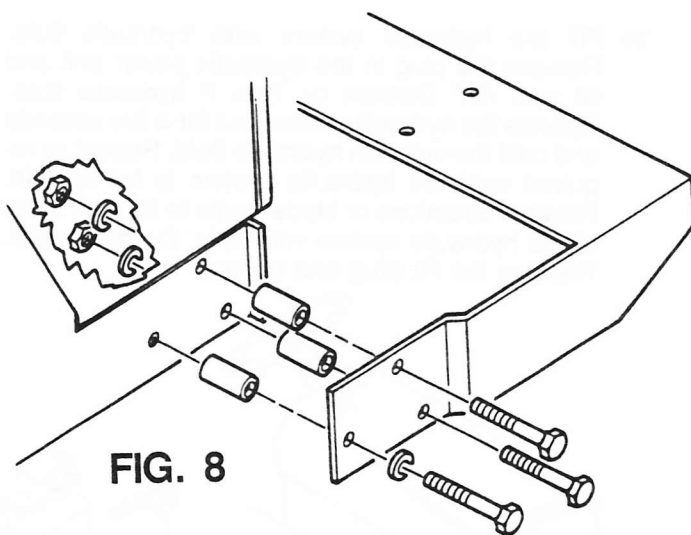

FIG. 8
2. When mounting on the 12-G through 20-G, use (3) spacers, (3) $\frac{1}{2}$ -13 x $2\frac{1}{2}$ hex hd. capscrews, (2) $\frac{1}{2}$ -13 hex nuts, and (3) lockwashers on each side as shown in FIG. 8.